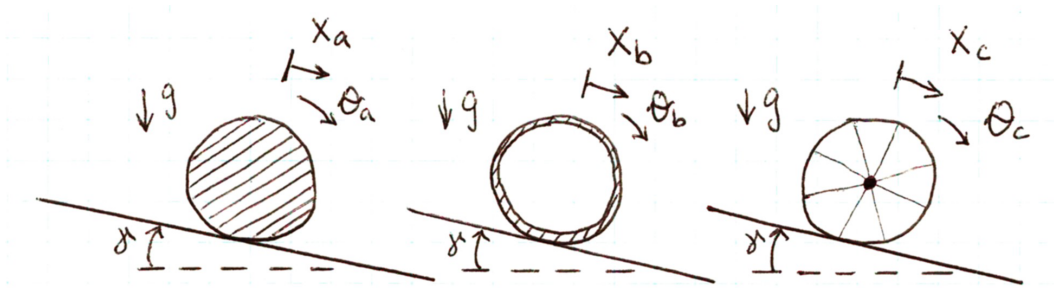

Figure 3: Three wheels, each with mass m and radius R .
4.2 Impedance of a wheel. Each of the wheels in Figure 3 has the same mass, $m = 1$ [kg], and radius, $R = 1$ [m], and each sits on the same downhill slope, γ [radians]. ($g = 9.81$ [m/s²]) However, each wheel has a different inertia. The wheel at left is a solid disk and has an inertia $J_a = \frac{1}{2}mR^2$. The center wheel is hollow, with all mass concentrated in a hoop at radius R , so $J_b = mR^2$. The wheel at right has all mass at a single point at its center, with massless spokes and rim, so $J_c = 0$.